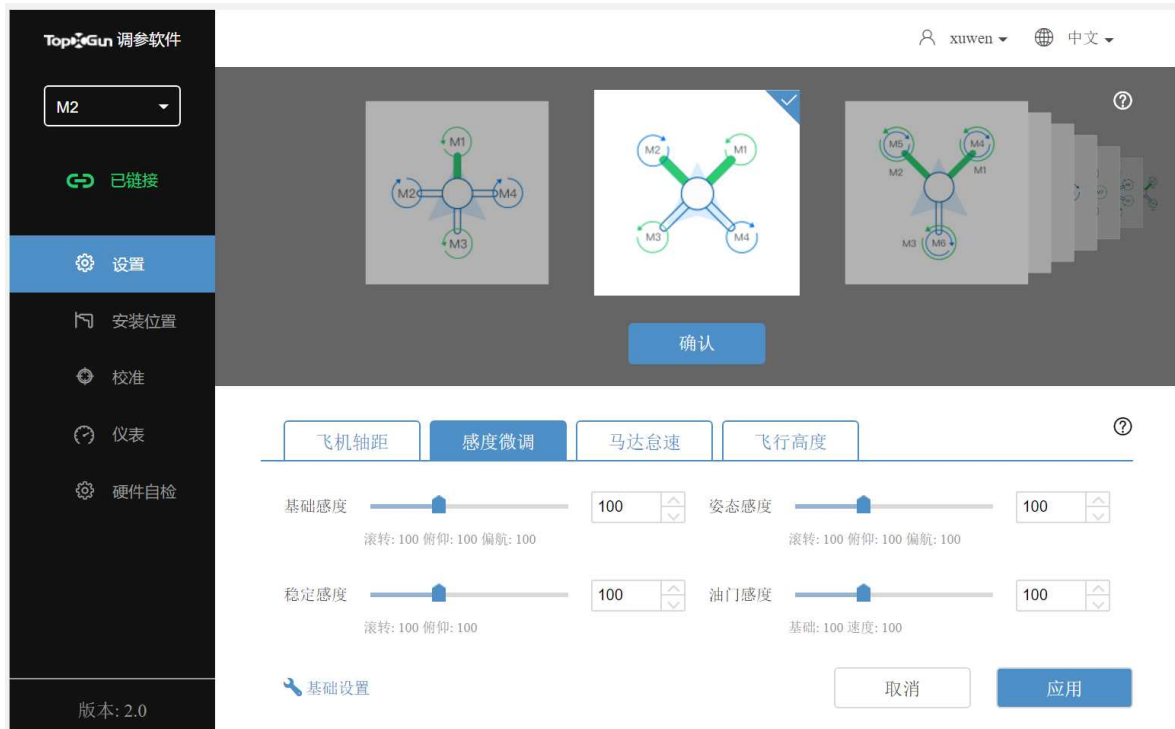

Figure 2-7 Operational sensitivity adjustment
Step 5. Set the sensitivity, as shown in Figure 2-7.